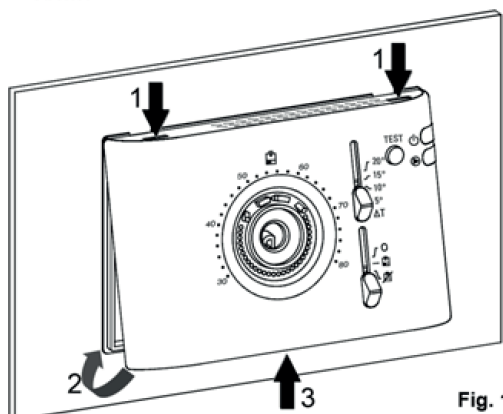

Fig. 10
- Turn the cover making sure the sliders coincide with the relative switches, push the plastic tab on the lower part of the base inwardly (see the arrow in Fig. 10) and press it so that the plastic fixing tab inside the special hole, at the bottom of the cover, clicks. Check the sliders' correct stroke.